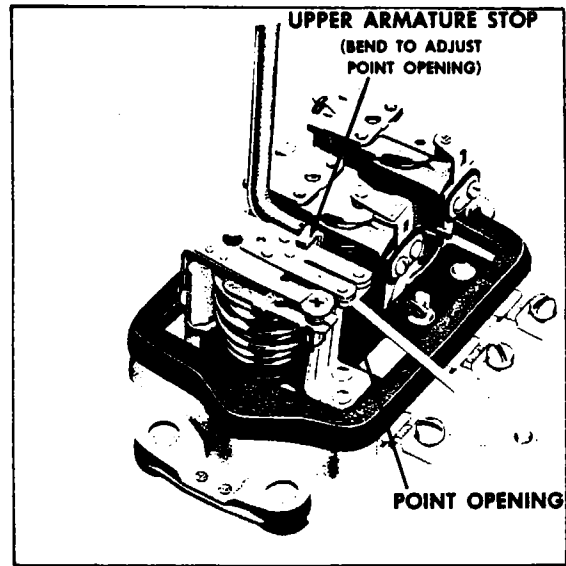

Figure 11-13. Cutout Relay Point Opening Check and Adjustment
b. Point Opening: Check point opening and adjust by bending the upper armature stop. (Refer to Figure 11-13.)